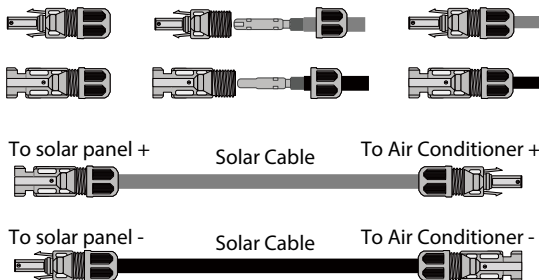

Fig. 9.25
- * The MC-4 Connectors should be assembled to the PV-wires on both side, and please follow Fig. 9.25 to make the MC4 connector.